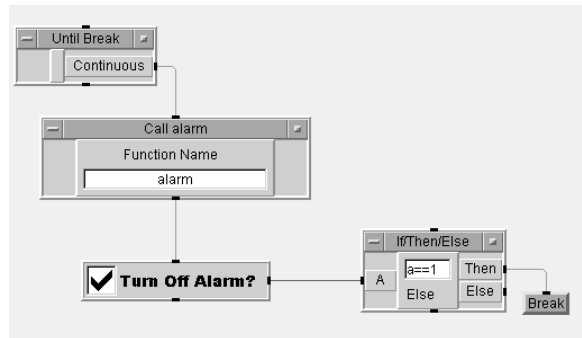

Figure 17.8. Detail view of the UserFunction: warning
44. Select Menu Bar => Flow => Repeat => Break; place it below and to the right of If/Then/Else; connect its top pin to the Then output pin of If/Then/Else. See Figure 17.8.